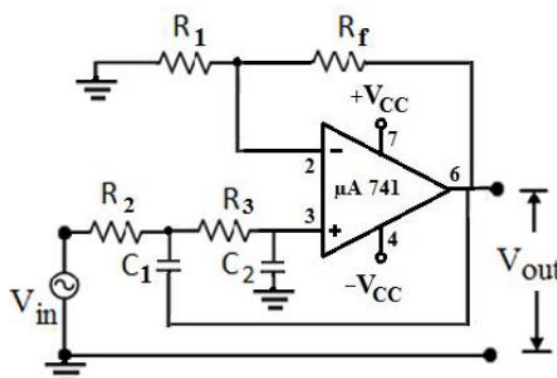

Fig. 8.3: Second order LPF
1. Rig up the circuit as shown in the Fig. 8.3.